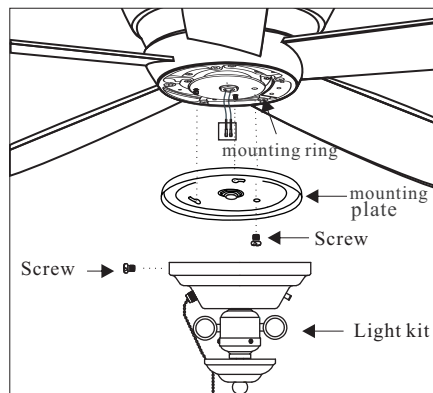

Figure 14
1. Remove one of 3 screws and loosen other two screws on the mounting ring. (Figure 14)
3. Place the key holes on the mounting plate over the 2 screws previously loosened from the mounting ring, turn mounting plate until it locks in place at the narrow section of the key holes. Secure by tightening 2 screws previously loosened and the one previously removed. (Figure 14)